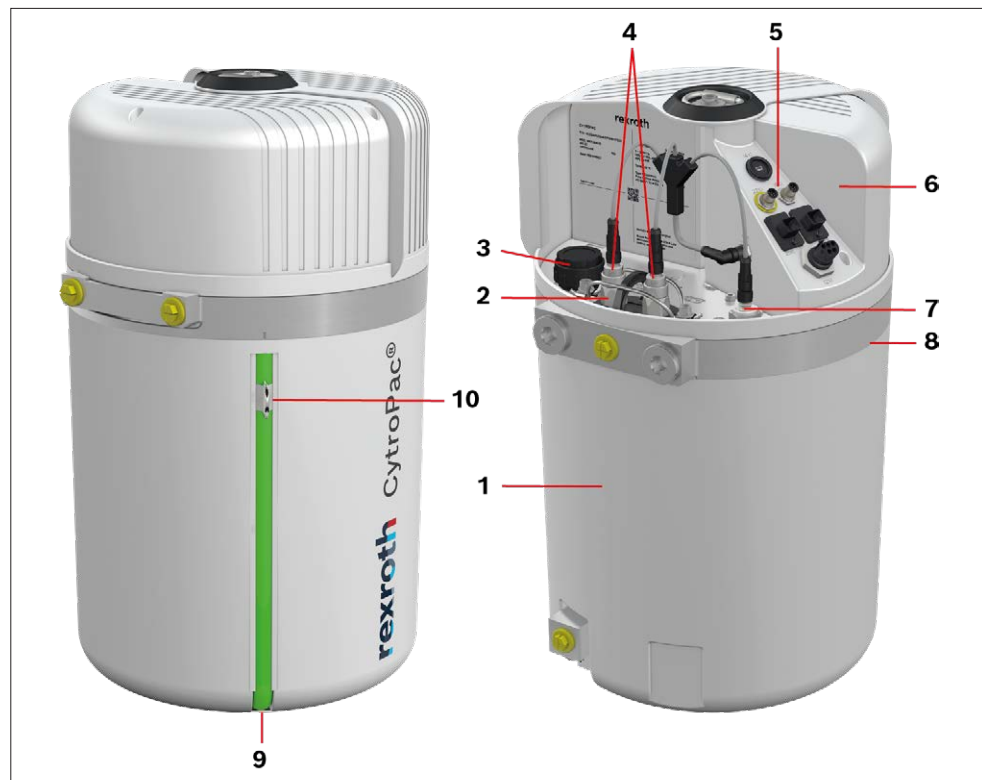

Fig. 1: Component overview
- ▶ Make sure that the cover is turned to the "closed position" after cleaning. See also Fig. 1, left view.